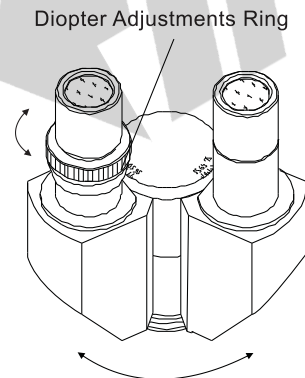

Figure 4
- 1) **Diopter Adjustment** Proper correction for individual vision is accomplished via the diopter adjustment located at the left eyepiece, see figure 4. Using the 40X magnification objective, bring an image into focus with your right eye only. Once the image is well focused, observe with left eye, make fine adjustments with the diopter adjustment ring to correct for your vision.
- 2) **Proper interpupillary distance**, Or the distance between eyepieces, is crucial to the comfort of the user. Adjusting the interpupillary distance is accomplished through a "folding" action of the optical head, at figure 4, allowing for quick and easy adjustment.